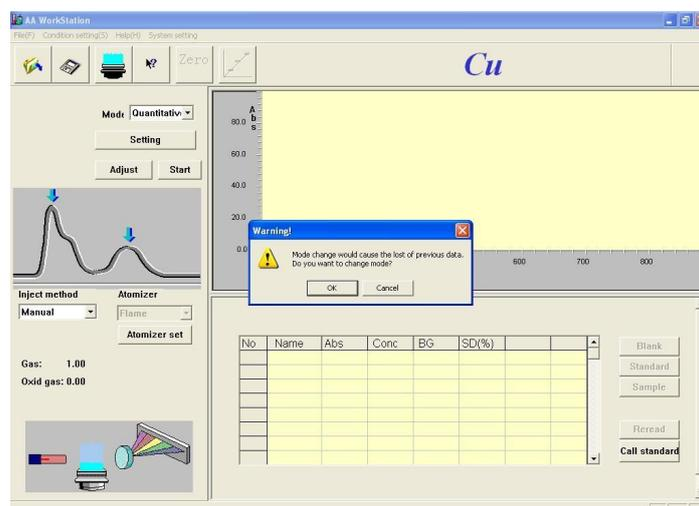

Figure 5-30
4. As shown in Figure 5-30, select “Quantitative analysis” in the pull-down list.